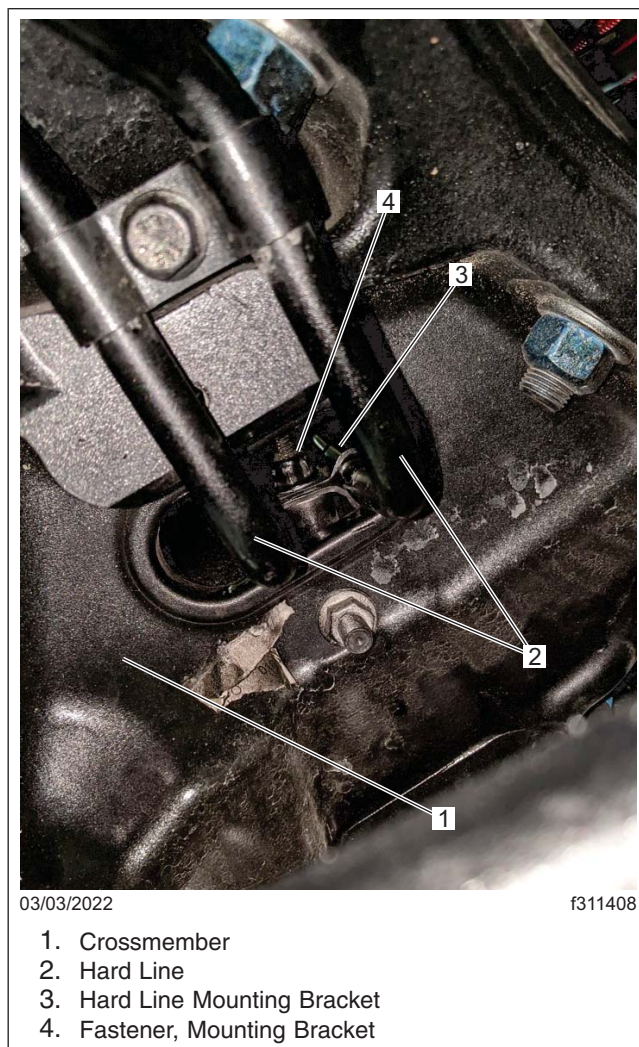

Fig. 4, Hard Line Mounting Bracket
33. Loosen the hard line mounting bracket fastener on the crossmember. See Fig. 4.
46. Tighten the hard line mounting bracket fastener on the crossmember hand tight. See Fig. 4.